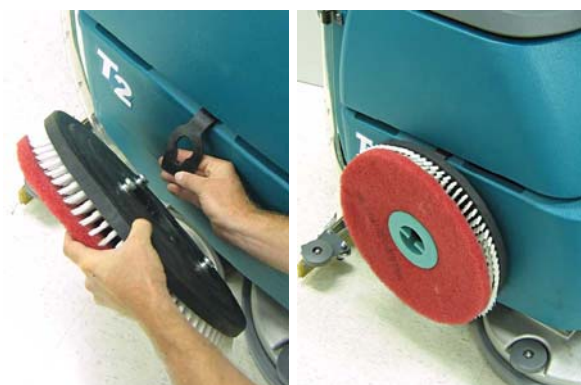

FIG. 13
- When transporting or storing machine, remove the brush and hang it on the storage strap (Figure 13).